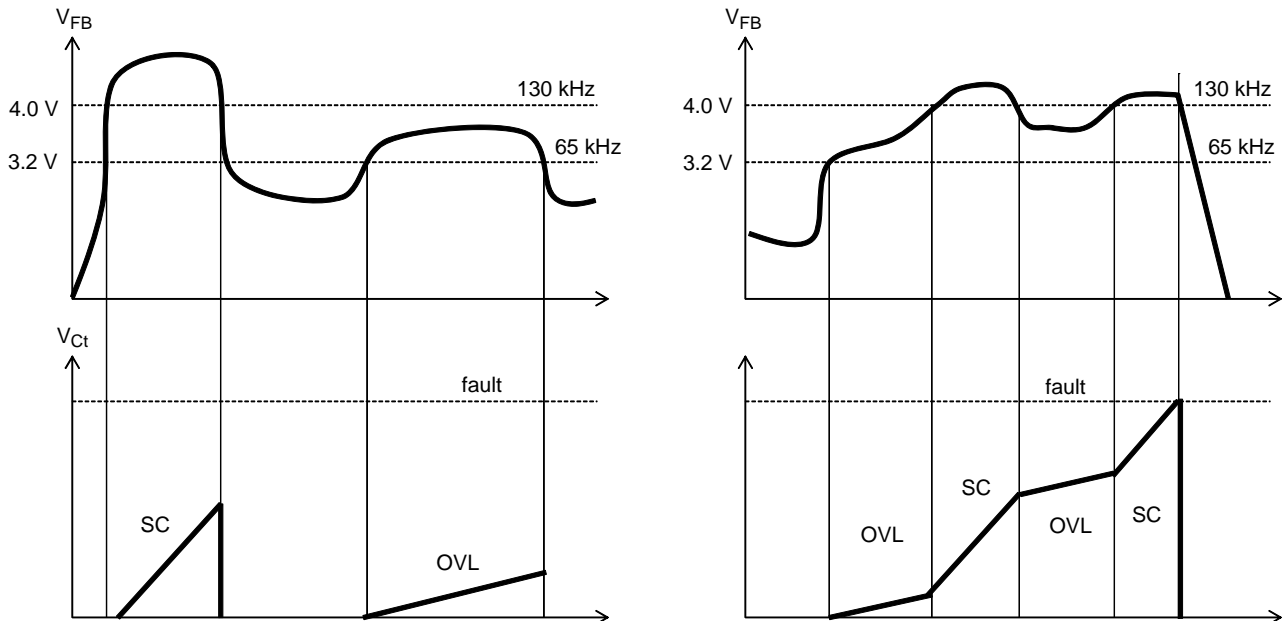

Figure 50.
2.4 V. When the maximum peak current situation is lifted, the converter returns to a normal situation, the timer is reset. The short circuit situation is detected by sensing a feedback voltage beyond 4 V. For the sake of the explanation, we have gathered two different events in Figure 50: